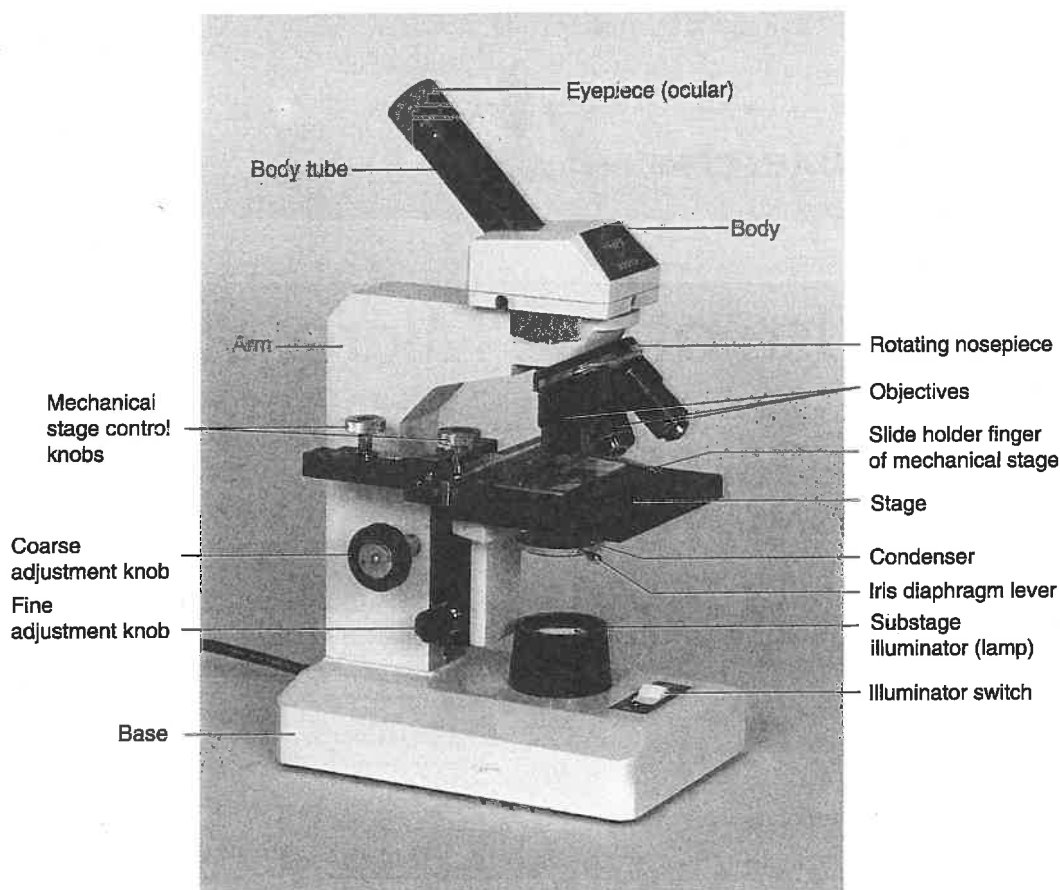

Figure 4.1 Major parts of a compound light microscope with a monocular body and a mechanical stage. Some microscopes are equipped with a binocular body.
- b. Handle the microscope with great care. It is an expensive and delicate instrument. To move it or carry it, hold it by its *arm* with one hand and support its *base* with the other hand (fig. 4.1).
2. Observe a compound light microscope and study figure 4.1 to learn the names of its major parts. The lens system of a compound microscope includes three parts—the condenser, objective lens, and eyepiece or ocular.